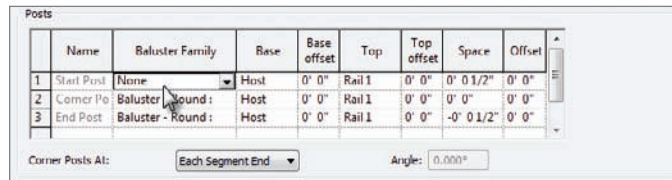

FIGURE 10.18 Setting the start of the railing to None removes the post that Revit provides only at this end of the railing.
1. For the Start setting, select None from the list, as shown in Figure 10.18.